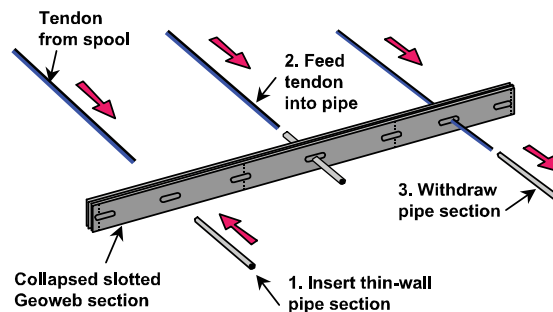

Figure 12 Use of Guide Tubes
- Insert a short length of thin-wall metal tubing as a smooth guide for the tendon. Once the tendon has been fed through the collapsed Geoweb® section, the tube is removed. See Figure 12.